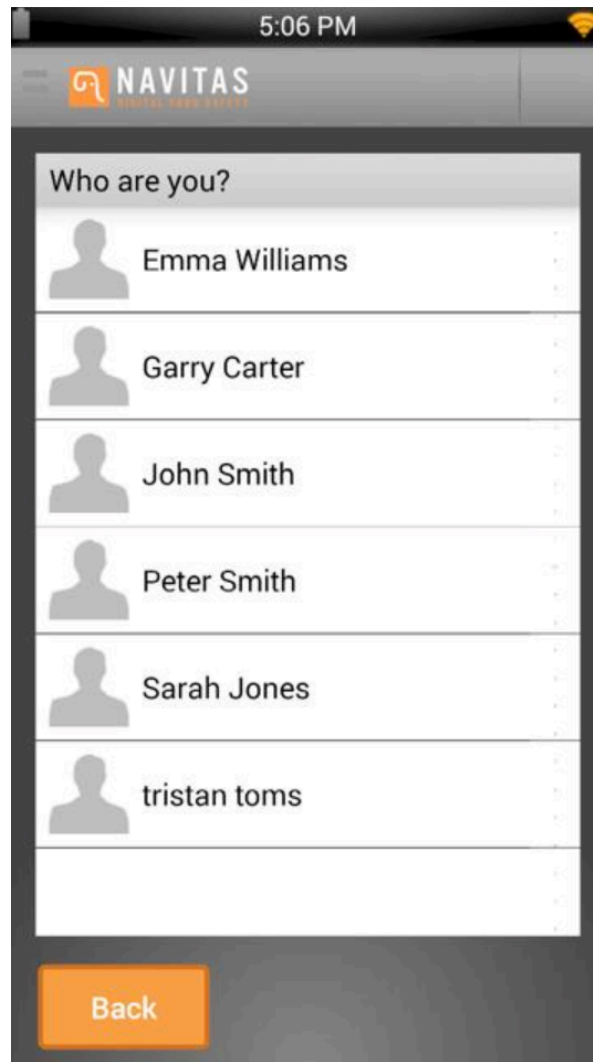

Fig. 25 – Staff selection screen.
2. Select the staff member (see Fig. 25).